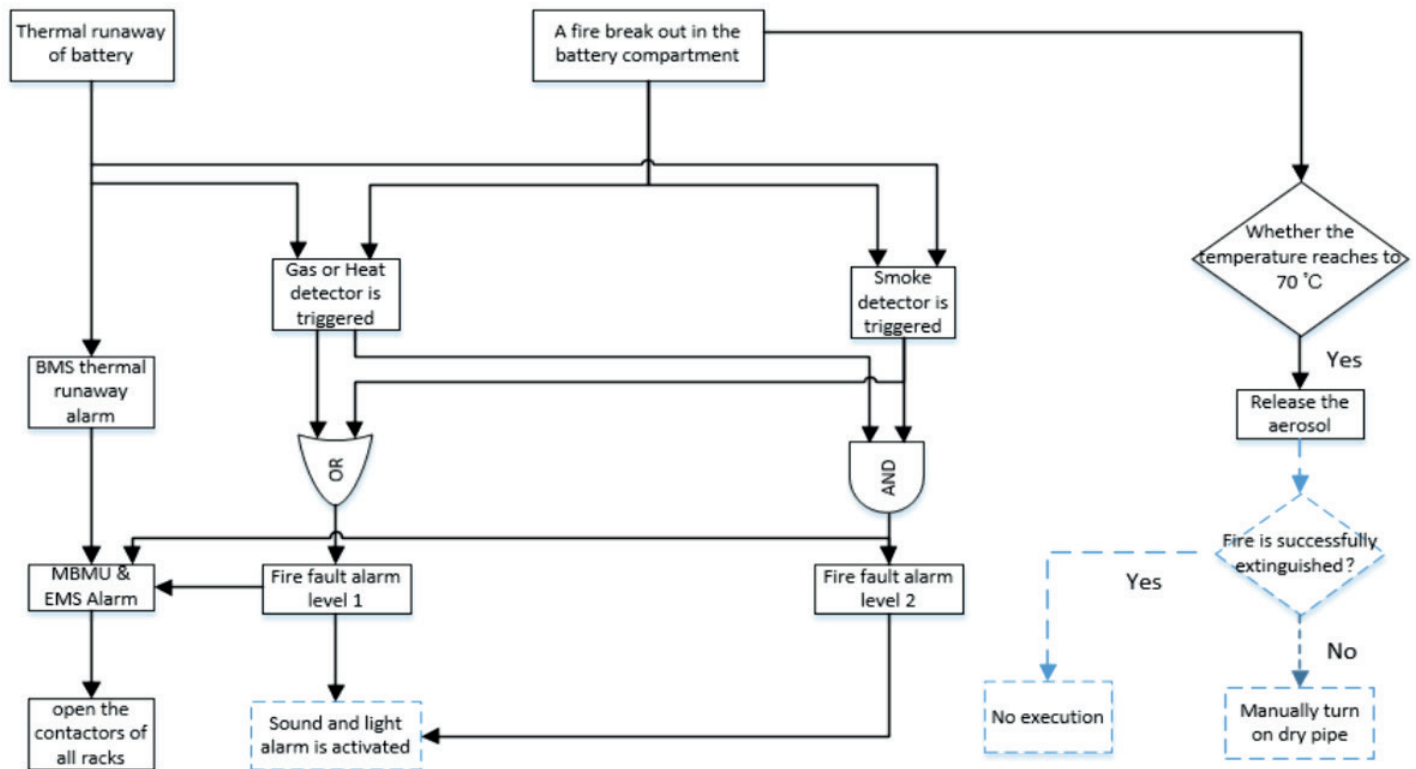
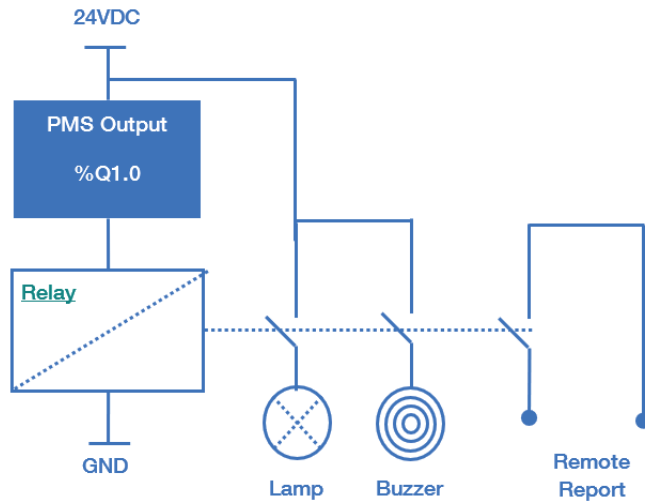

Figure 145. Fire Safety System Control Logic
Figure 146. EWCS FSS External Connection
- a. Place the probe around the main AC power cables. Each probe should encompass all the cables of its corresponding phase. See Figure 145 and Figure 146.